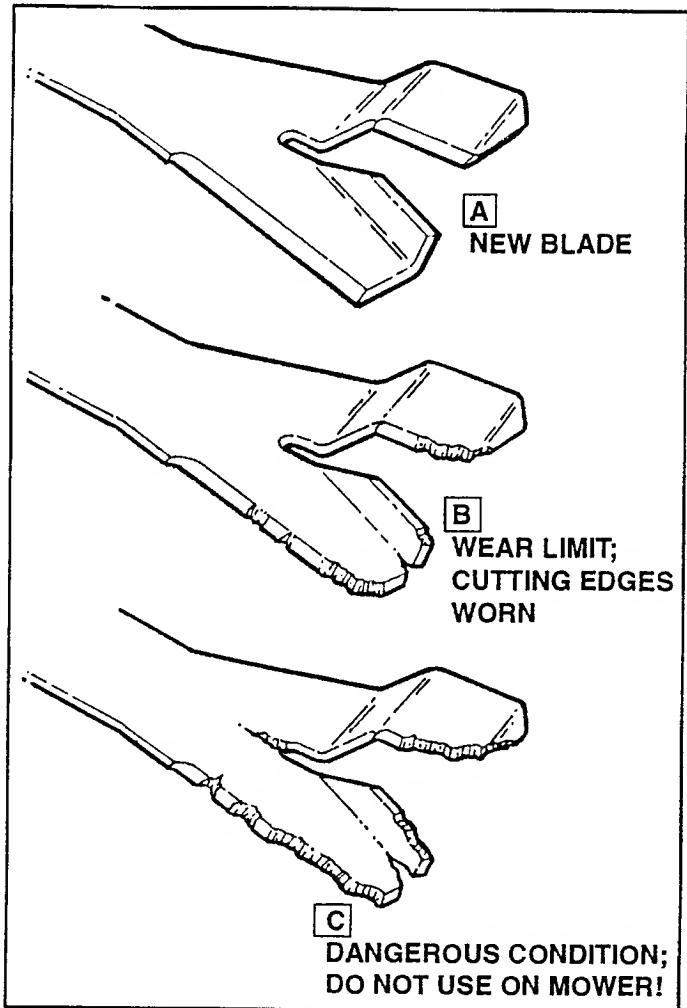

FIGURE 9.6
- B. Consult the Blade Drawings shown in Figure 9.6 to determine if a blade can be sharpened and safely reused, or if it must be replaced with a new part. Consult the SNAPPER "ACCESSORIES" Manual for Part No.
- C. If the blade is badly chipped, bent, out of balance, or as soon as a notch begins to wear in the tip between the flat blade and upturned blade, as depicted in Illustration "B" of Figure 9.6, then the blade MUST be replaced.
- B. Clean and inspect blades for excessive wear or damage. Refer to Figure 9.6.